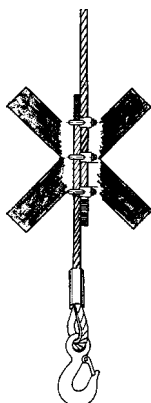

Fig. 6
- Do not knot or shorten the wire rope by using clamps, screws, screwdrivers or other devices (Fig. 6). Do not use the wire rope over sharp edges.